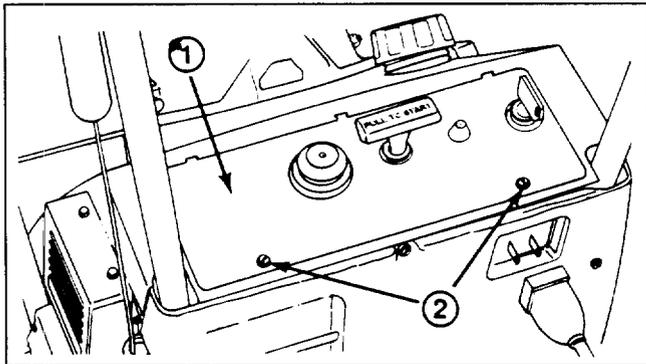

Figure 15
1. REMOVE CONTROL PANEL (Fig. 15) – Remove (2) screws securing control panel to housing. Remove ignition key and lift off panel, allowing it to hang on recoil rope.